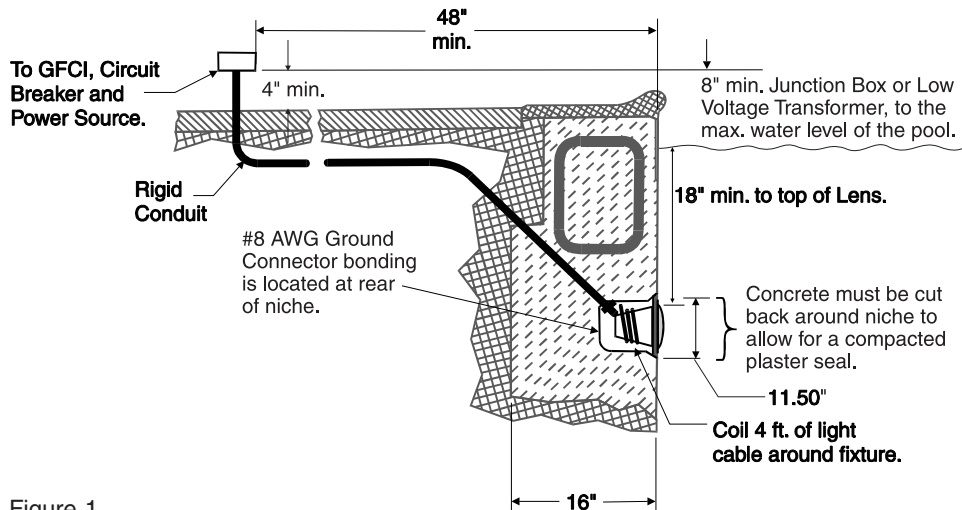

Figure 1.
- The Junction Box (or, for **12 volt models**, the low voltage transformer) is located at least eight (8) inches above ground level and at least 48 inches from the edge of the pool; see Figure 1 on page 3.
- The light fixture and all metal items within five (5) feet of the pool are properly electrically bonded.
- The wet niche is properly installed so that the top edge of the underwater light's lens is at least 18 inches below the surface of the water in the pool; see Figure 1 on page 7.
- The wet niche is properly electrically bonded and grounded via the No. 8 AWG ground connector located at the rear of the niche; see Figure 1.
6. Leave at least four (4) feet of cord to coil around the light fixture; see Figure 1 on page 7. This four (4) feet of cord coiled around the light allows the light to be serviced after the pool is filled with water.
7. Cut the cord at the Junction Box, leaving at least size (6) inches of cord to make connections.
8. Strip six (6) inches of the outer cord jacket from the cord to expose the three insulated wires – Be careful not to damage the insulation on the three inner wires.
BEFORE STARTING: The following steps 1-7 (page 7-8) describe the tasks that must be completed by the electrician before the IntelliBrite light fixture is installed. See Figure 1 diagram on page 7.
- The Junction Box (or, for 12 volt models, the low voltage transformer) is located at least 8 inches above the maximum water level of the pool and at least 48 inches from the edge of the pool; see Figure 1.
- The wet niche is properly installed so that the top edge of the underwater light's lens is at least 18 inches below the surface of the water in the pool; see Figure 1. (Not more than 20" depth in Canada.)
1. Feed cord through conduit to Junction Box, leaving at least four (4) feet of cord at the light fixture to coil around the light (this allows the light to be serviced after the pool is filled with water). See Figure 1 on next page.
19. Coil at least four (4) feet of cord around the light fixture (see Figure 1 on page 7). This allows the light to be serviced after the pool is filled with water.